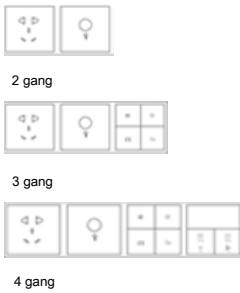

Figure 11. Horizontal installation
**Horizontal installation - See Figure 11**